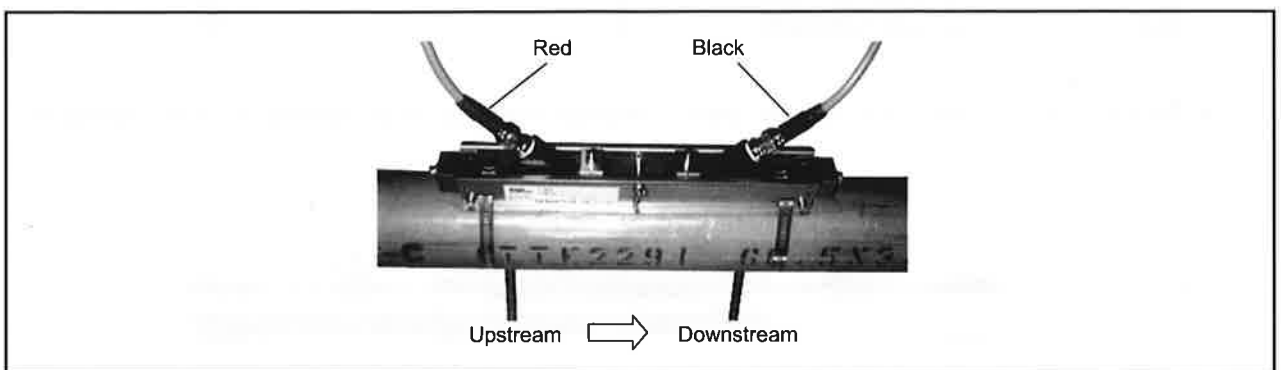

Fig. 3-12
- (4) Engage the signal line with BNC connectors of the sensor units. At this time, do not mistake the upstream and downstream sides for each other. Engage the red BNC connector upstream, and the black BNC connector downstream (see Fig. 3-12).